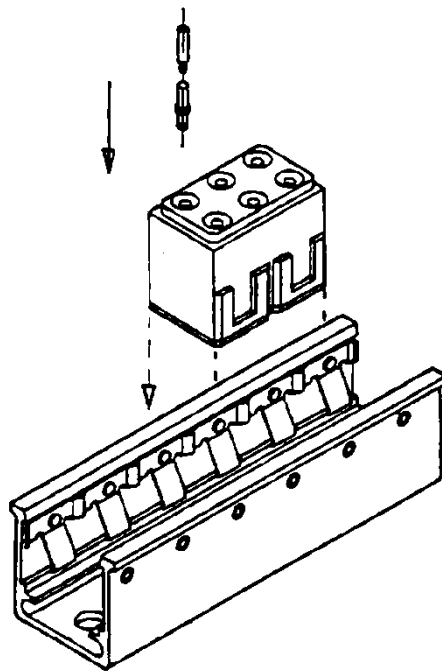
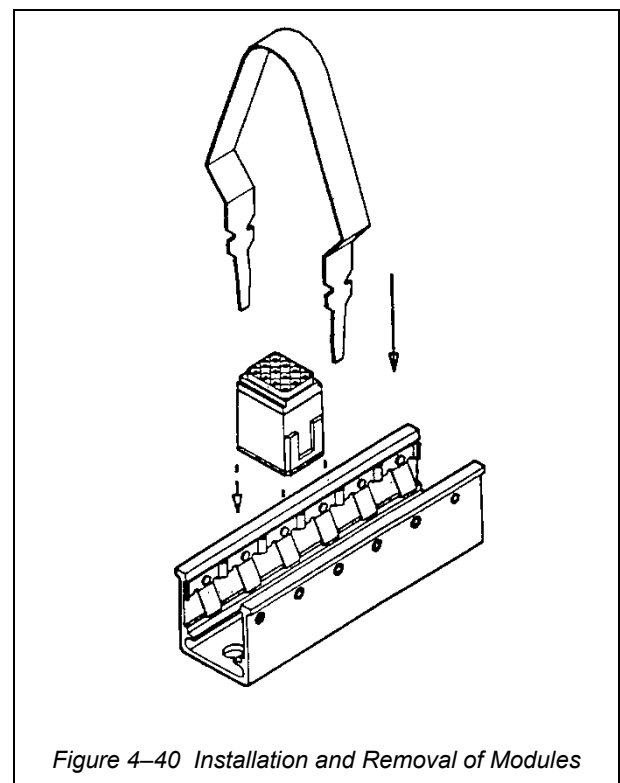

Figure 4-35 Feedback Terminal Junction Assembly Series II
Figure 4-40 Installation and Removal of Modules
- (1) Feedback type - all connections made to one side of module, non-electronic and electronic. (See Figure 4-35.)
- (2) Distribution type - different size contacts bussed together.
- c. Tracks or frames (holders) for modules. (See Figure 4-35.)
97. Series II modules are individually installed, retained and removed. The installation of modules in the track is accomplished as follows (See Figure 4-35 and Figure 4-40):